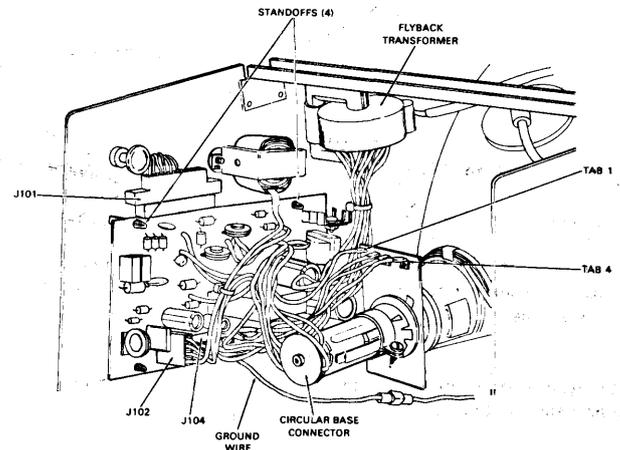

Figure 5-6 Video Monitor Board Removal
2. Remove the circular connector from the base of the CRT (Figure 5-6).
2. Disconnect 7-wire connector J104, located at the bottom-center of the video monitor board. Move the harness up and out of the way (Figure 5-6).